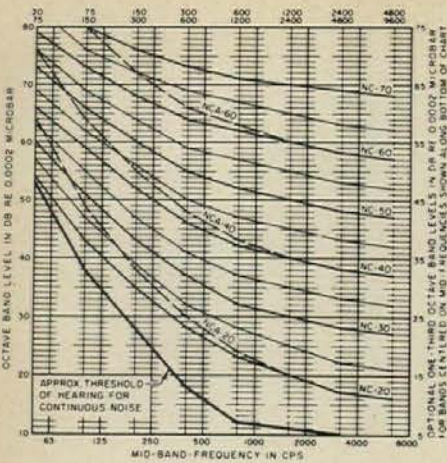

Figure 1. Noise criteria curves, from "A.S.H.R.A.E. Guide and Data Book."
Ambient noise criteria are related to the familiar *noise criteria* (NC) curves of standard references (see Figure 1). There are 68 room criterion sheets for various kinds of spaces similar to the one shown in Figure 2 for classrooms. The table of expected ambient masking noise (table I) to which these sheets refer is also useful in deciding whether sound barriers are required between adjacent spaces.